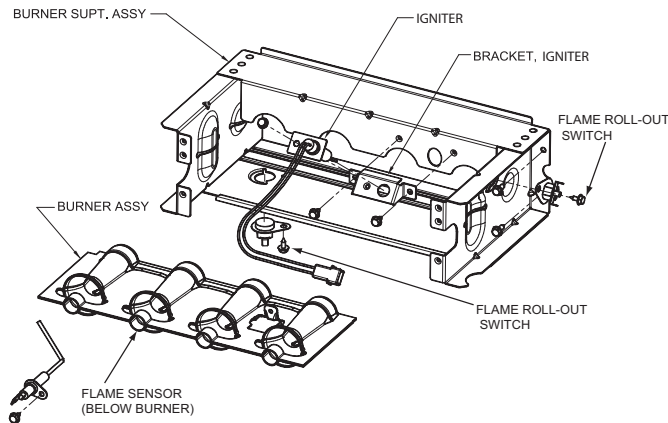

Fig. 5 – Burner Assembly
7. Disconnect the connector harness from gas valve. Disconnect wires from Hot Surface Igniter (HSI) and Flame Sensor. See Fig. 5.
1. Refer to Fig. 4 and Fig. 5.